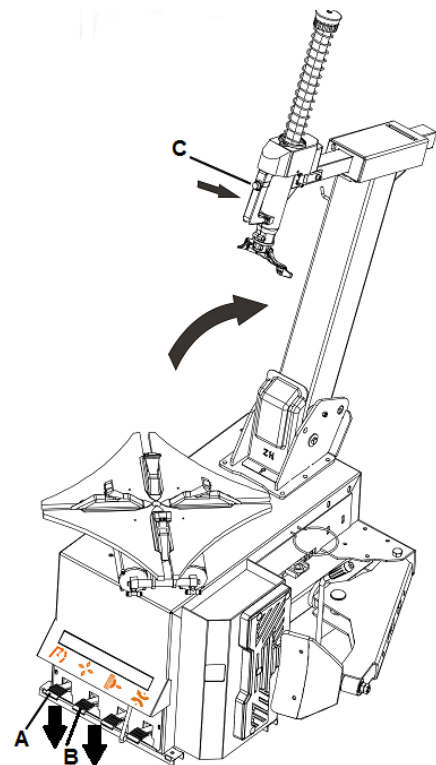

Fig. 14
- Push pedal A (fig.14) to tilt the column backward, now place the tire on the clamps and push the rim down firmly, now press pedal B (fig.14).
- Push pedal A (fig.14) to tilt the column backward, now place the tire on the clamps and push pedal B (fig.14) to let the clamps move outward, thereby locking the rim.
- Push pedal A (fig.14) to tilt the column forward.